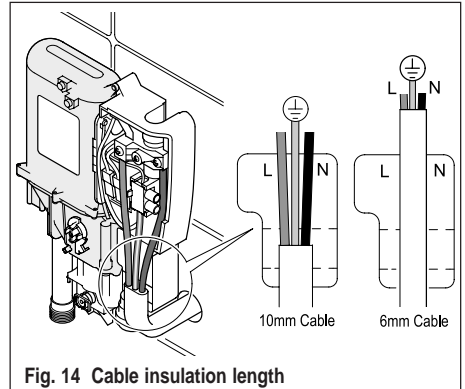

Fig. 14 Cable insulation length
5.7.4 Strip the outer insulation back as shown in fig. 14. The protective cover indicates the position for 10mm cable insulation and the minimum position for all cable sizes.